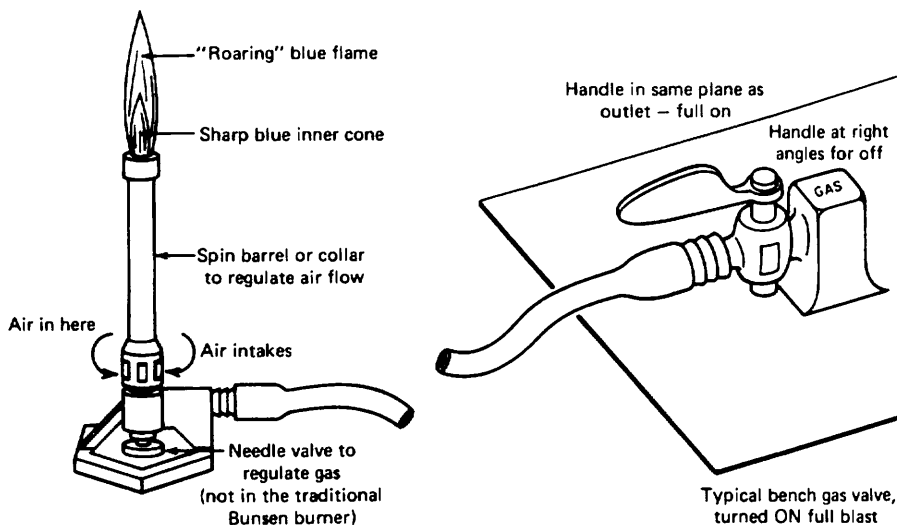

Fig. 80 More than you care to know about burners.
1. Find the **needle valve**. This is at the base of the burner. Turn it fully clockwise (inward) to stop the flow of gas completely. If your burner doesn't have a needle valve, it's a traditional Bunsen burner and the gas flow has to be regulated at the bench stopcock (Fig. 80). This can be dangerous, especially if you have to reach over your apparatus and burner to turn off the gas. Try to get a different model.
3. Connect the burner to the bench stopcock by some tubing and turn the bench valve *full on*. The bench valve handle should be parallel to the outlet (Fig. 80).